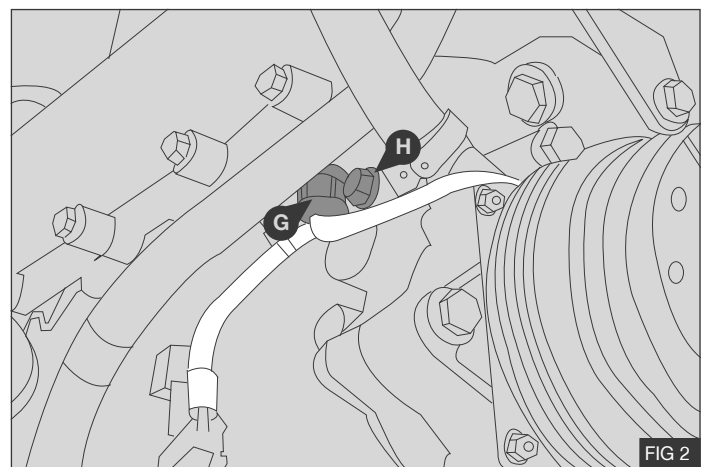

FIG 2
12. Remove the bolt **H** and wiring clip **G** from the engine block, if applicable - Fig 2